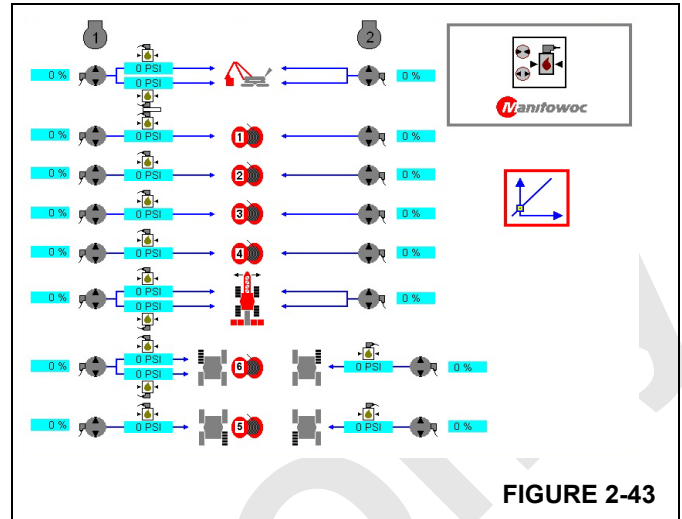

FIGURE 2-43
7. Then press  or  until the Pressure Sender Test icon appears as shown (Figure 2-43).